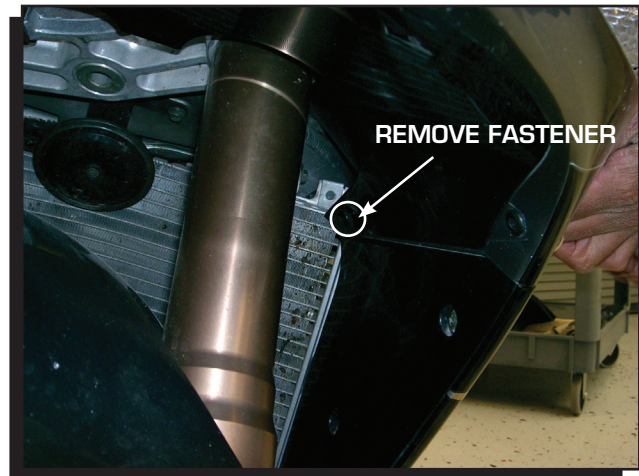

Figure 4 Left Panel Lower Fastener.
4. Remove left panel fastener located under the nose, near the radiator (Figure 4).